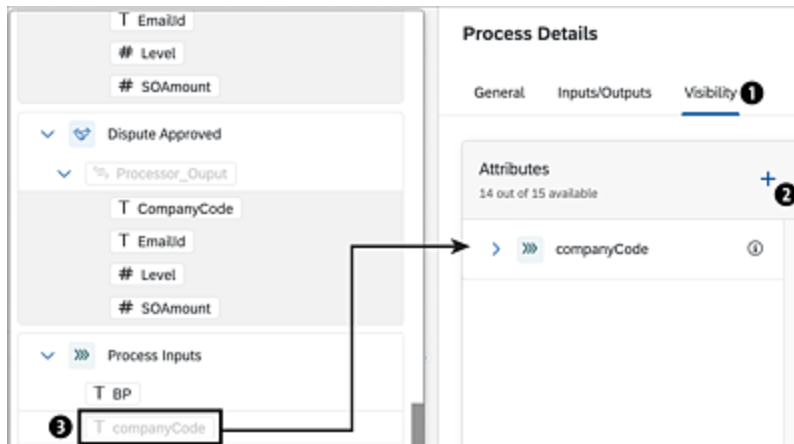

Figure 19.2 Adding Attributes to the Visibility Scenario
2. On the right-hand side of the screen shown in Figure 19.2, select the **Visibility** tab ❶.
3. Click on the + sign on the right panel ❷ to add the relevant attributes from the process.
4. Add the required attributes as shown in Figure 19.2 ❸.